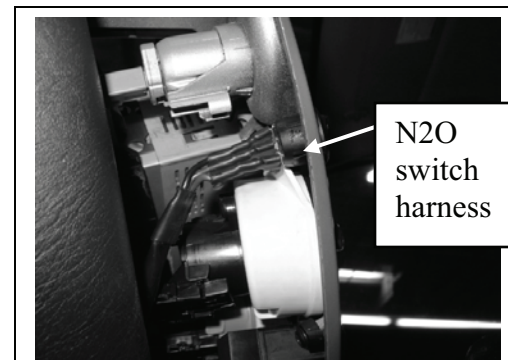

FIGURE 3
7. Route the switch to bulkhead harness through the dash down to the rearward side of the driver side fender well **(FIGURES 3,4)**